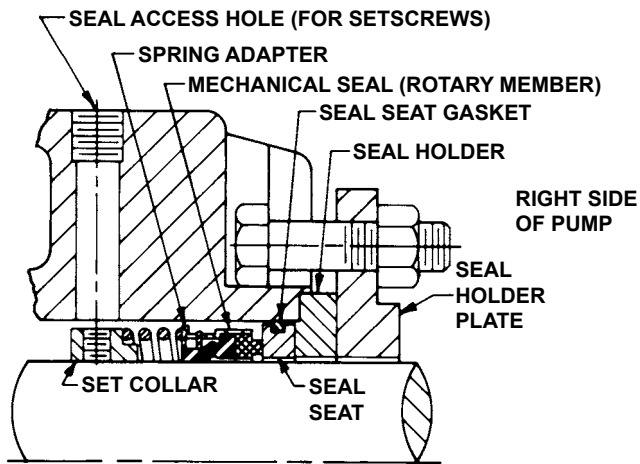

FIGURE 6 - STANDARD MECHANICAL SEAL
4. Standard Mechanical Seal (synthetic rubber bellows type) uses a set collar behind the seal spring. Two setscrews must be loosened before shaft can be removed. Access to collar setscrews is through seal access hole on right hand side of mounting bracket (viewed from shaft end, Refer to Figure 6.)